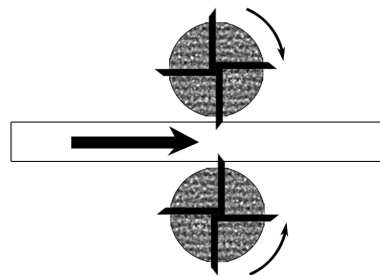

Figure 11
8.6.2 The cutting direction of the trimming knife should be opposite to the running direction of the plate (FIG. 11)